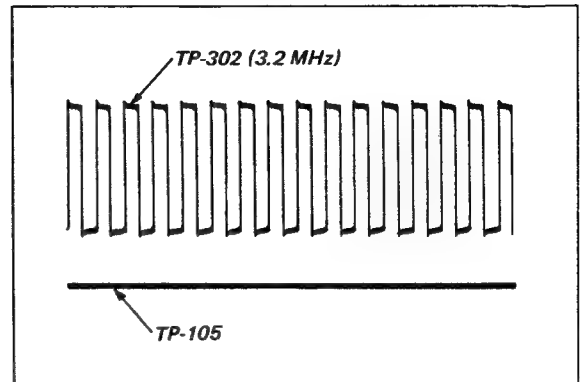

Fig. 5-2a. Waveforms in Steps 5 and 6
- b. Set scope controls to obtain a stable trace. A correct carrier frequency of 3.2 MHz is indicated when there are 16 complete square waves in ten divisions. Set R126 to produce this indication. See Fig. 5-2a.
6. Note the position (dc voltage level) of the trace on CHANNEL 2 with reference to the trace on CHANNEL 1 (as obtained in Step 5). See Fig. 5-2a.